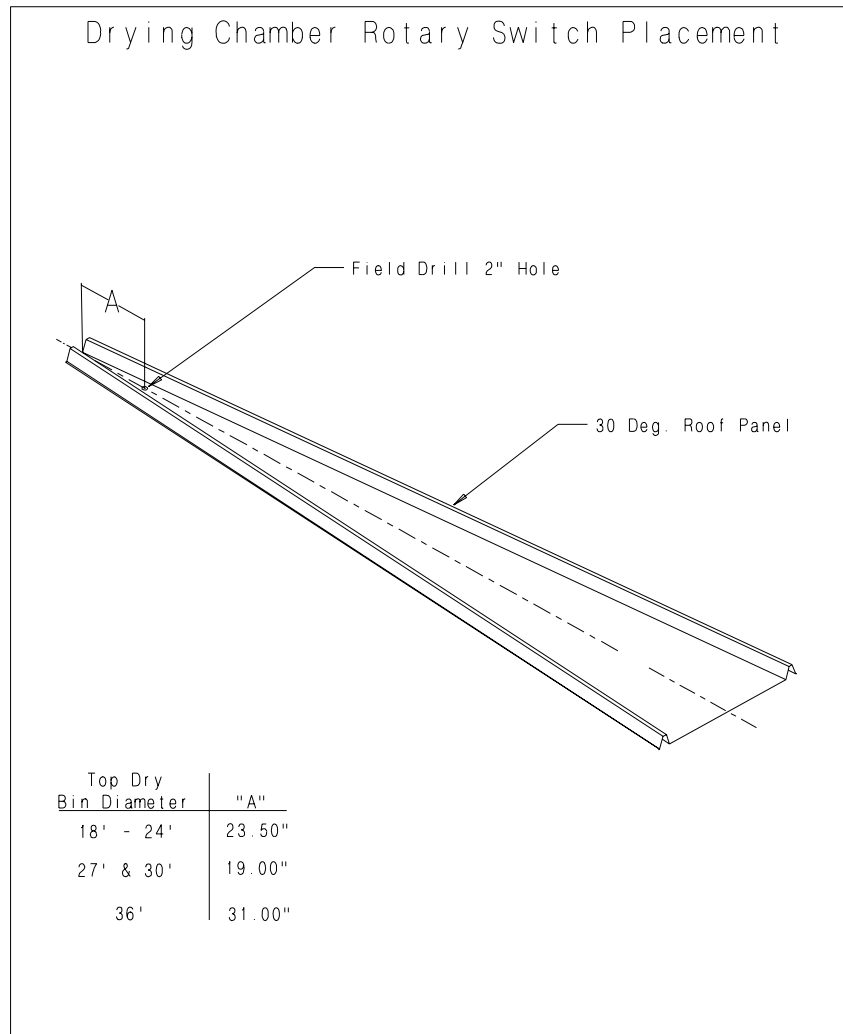

Figure 5: Drying chamber rotary switch placement.
1. Drill a 2" diameter hole through the roof panel at the location shown in Figure 5.